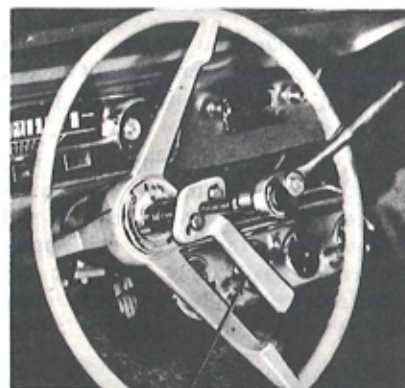

FIG. 5—Removing Steering Wheel—Typical
2. Remove the steering wheel attaching nut and remove the steering wheel from the shaft, using the tool shown in (Fig. 5).
2. Remove the steering wheel attaching nut. Remove the steering wheel (Fig. 5) with a puller. Lift
2. Remove the horn ring (or button). Remove the steering wheel retaining nut and the steering wheel (Fig. 5).